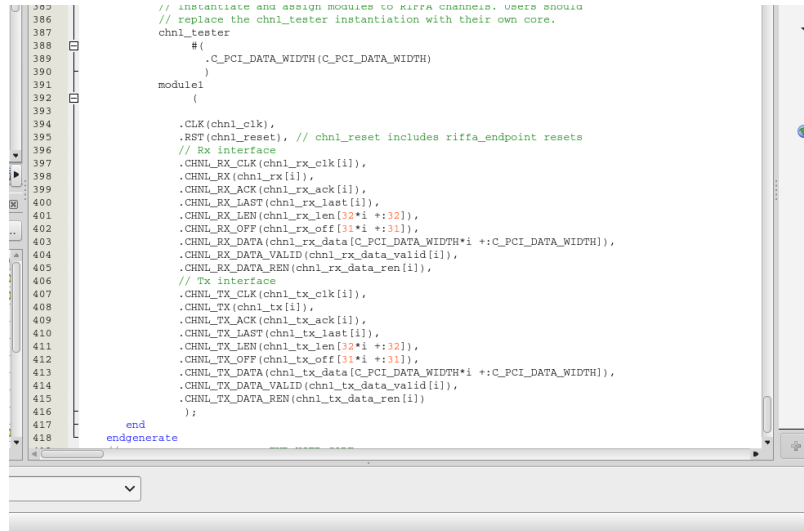

Figure 5.3: chnl_tester instantiation in the top level file
6. The example design uses the *chnl_tester* (shown in Figure 5.3, which works with the example software in the *source/{C-C++,Java,python,matlab}* directories. Replace the *chnl_tester* instantiation with any user logic, matching the RIFFA interface.